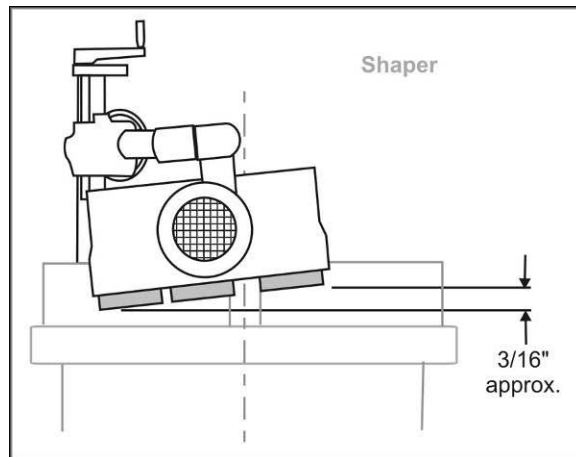

Figure 18
- When the Stock Feeder is in edgewise position, it must be inclined slightly towards the work table in the direction of feed, to ensure the workpiece remains forced down against the table. In other words, the outfeed roller should be approximately  $3/16"$  closer to the work table than the infeed roller. See Figure 18.
- When the Stock Feeder is in the edgewise position, or angled for a beveled workpiece, the axis of the cutter should be between the infeed roller and the center roller (between the two center rollers on the 4-roller model). See Figure 18. The center roller should NOT be directed toward the opening between the fences, but should act directly against the fence.